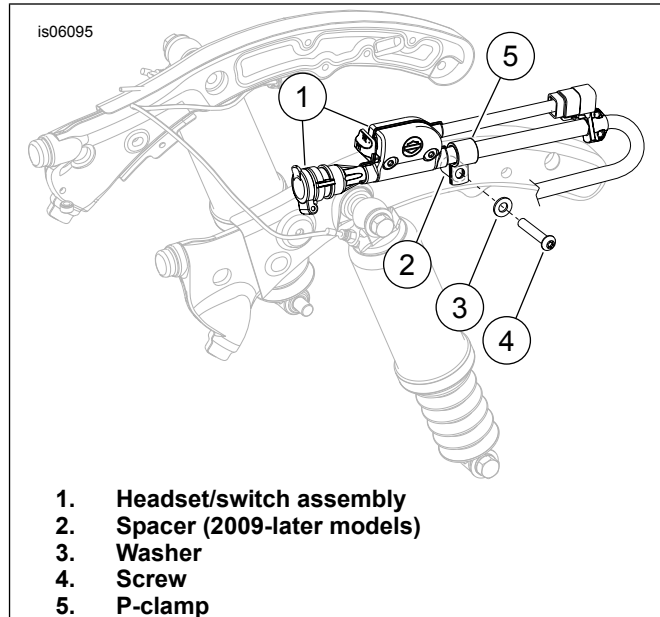
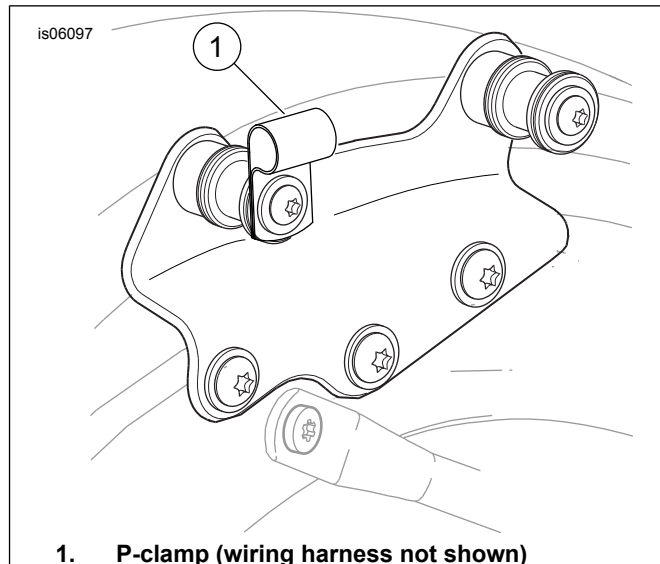
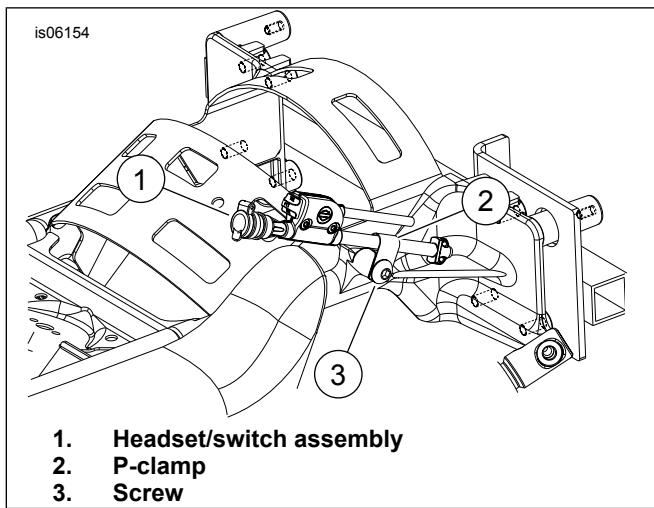

Figure 2. Installation Without Docking Points
Figure 3. Installation With Docking Points
Figure 4. Installation on Trikes Without Tour-Pak
1. **2006-2008 FLHX, FLTR, FLHT/C models:** For motorcycles WITHOUT docking hardware, See Figure 7. Use the fender support cover fastener to install the smaller P-clamp (15) from the kit. For vehicles WITH docking hardware, use the front docking point fastener. Install the smaller P-clamp (15) between the outer face of the docking point and the washer. **2009-later FLHX, FLTR, FLHT/C models:** For motorcycles WITHOUT docking hardware, see Figure 2. Use the threaded hole in the frame using screw (4), washer (3), spacer (2) and the smaller P-clamp (5) from the kit. For motorcycles WITH docking hardware, use the docking point shown in Figure 3. Install the smaller P-clamp from the kit to the outer end of the docking point using the docking point washer and screw. **2009-later Trike models without Tour-Pak (FLHXXX):** See Figure 4. The headset/switch assembly (1) will be secured to the frame at the location shown using the 1/2-13 screw (3) and the larger P-clamp (2) from the kit.